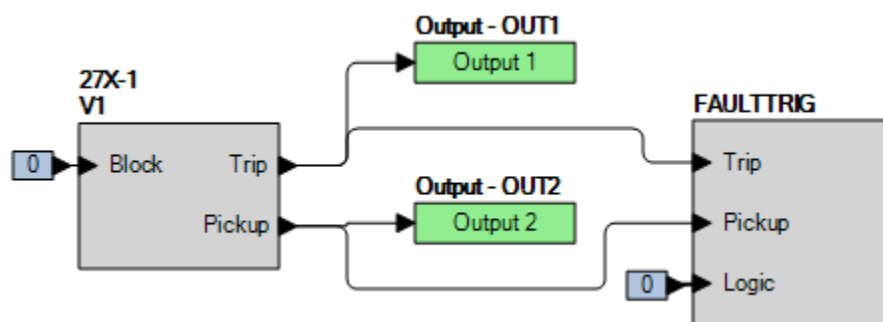

Figure 58-2. BESTLogicPlus Settings (V1 Mode)
- Step 2: Use BESTCOMSP*lus* to configure the BESTlogic*Plus* programmable logic shown in Figure 58-2.
- Step 4: Prepare to monitor the 27X-1 function operation. Operation can be verified by monitoring OUT2 (see Figure 58-2).